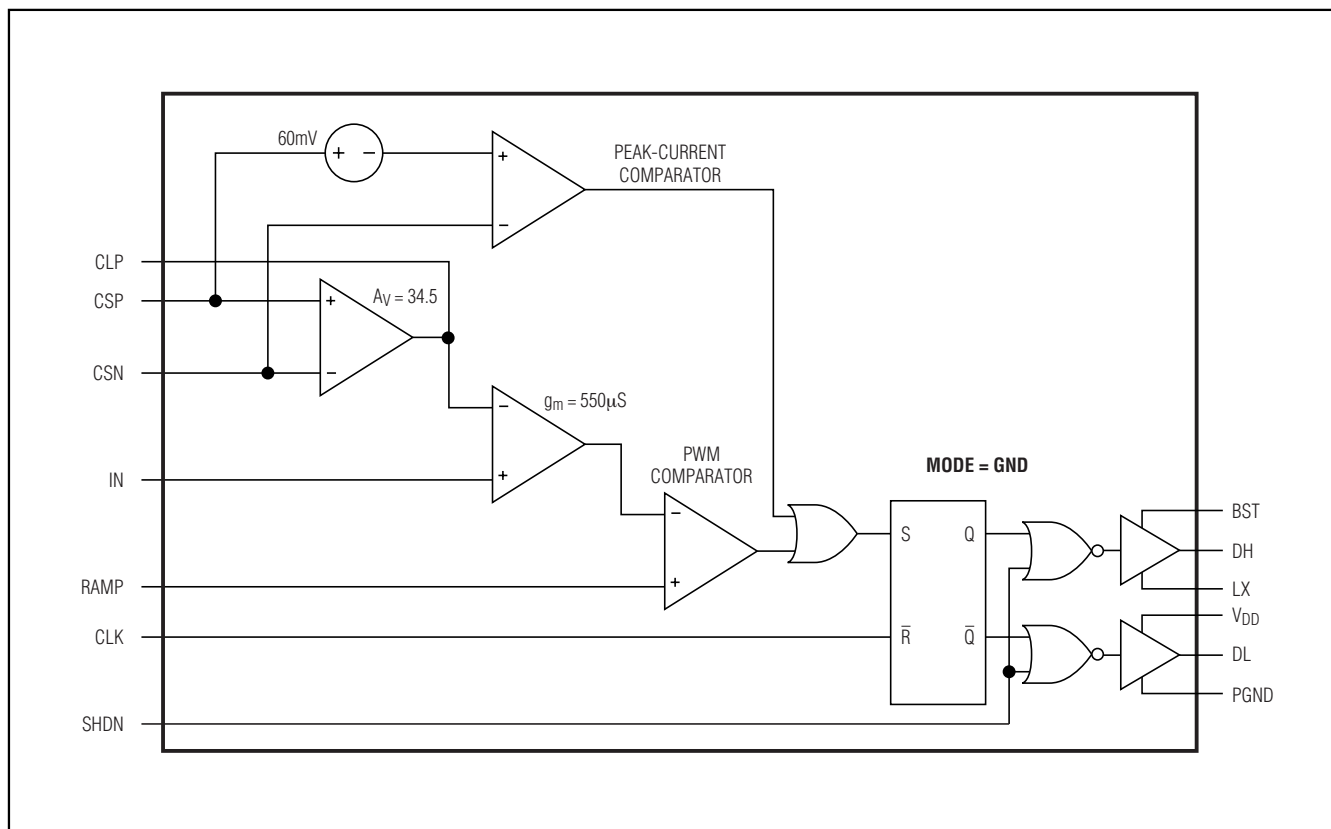

Figure 3. MAX16821A/MAX16821B/MAX16821C Phase Circuit
The peak-current comparator provides a path for fast cycle-by-cycle current limit during extreme fault conditions, such as an inductor malfunction (Figure 3). Note the average current-limit threshold of 27.5mV still limits the output current during short-circuit conditions. To prevent inductor saturation, select an inductor with a saturation current specification greater than the average current limit. The 60mV threshold for triggering the peak-current limit is twice the full-scale average current-limit voltage threshold. The peak-current comparator has only a 260ns delay.
$2\text{V}_p\text{-p}$ ramp signal. At the start of each clock cycle, an R-S flip-flop resets and the high-side driver (DH) turns on if MODE is connected to SGND, and DL turns on if MODE is connected to V_{CC} . The comparator sets the flip-flop as soon as the ramp signal exceeds the CLP voltage, thus terminating the ON cycle. See Figure 3.